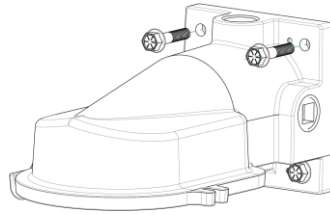

Figure 2: Anchor Wall Mount to Wall
3. Firmly secure the Wall Mount to the wall surface using four 5/16" (or M8) diameter fasteners with the appropriate anchoring system. Fastener hardware not provided. **See Figure 2.**